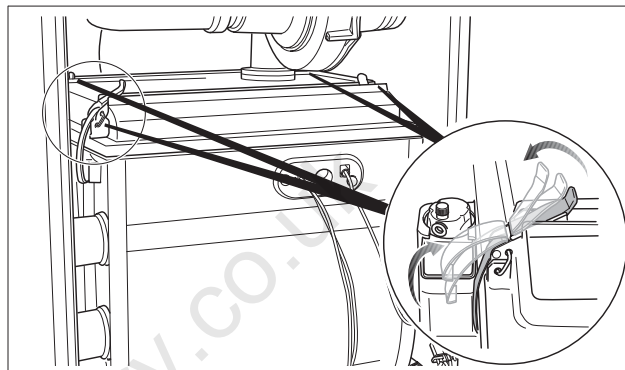

fig. 124 Opening the snap closures
- Carefully open the 4 snap closures on the burner cover (fig. 124). The snap closures may be under tension.